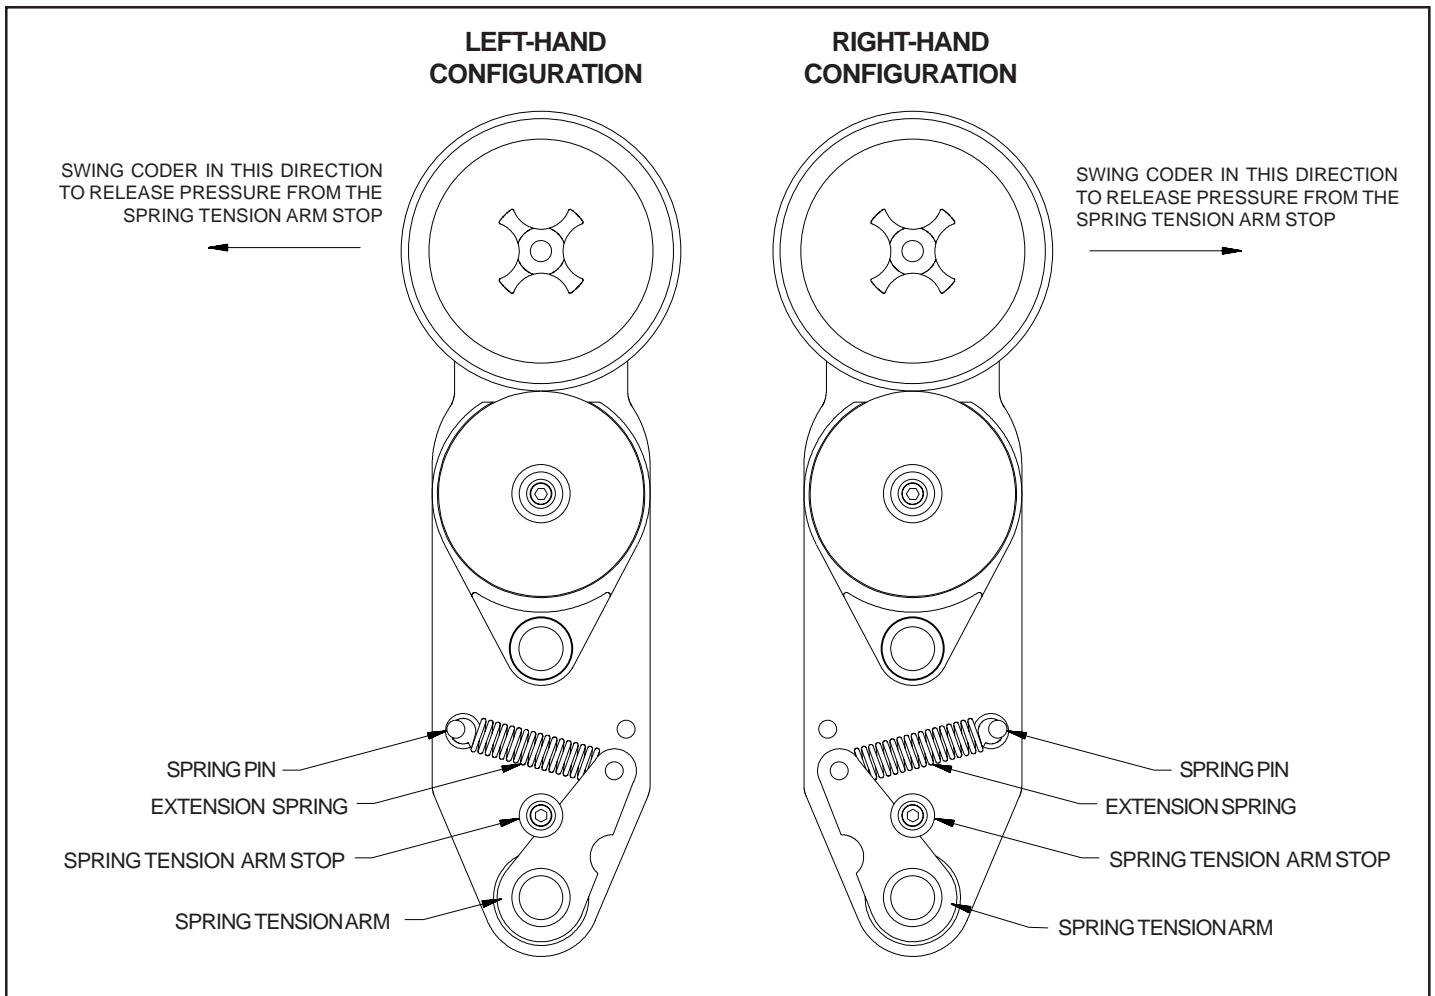

FIGURE 46
- 2 - Swing coder in the direction shown in Figure 46 to move the Spring Tension Arm Stop away from the Spring Tension Arm. Remove the socket head screw and the Spring Tension Arm Stop.**